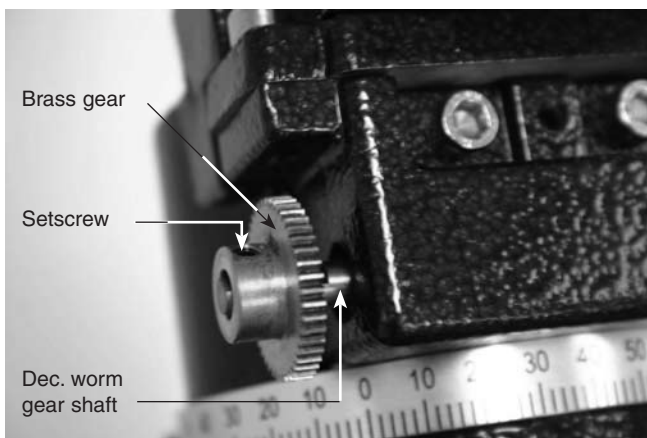

Figure 8. Correct orientation of brass gear for Dec. axis
2. Slide the geared end of the remaining small brass gear onto the Dec. worm gear shaft of your SkyView Pro mount so it resembles Figure 8. Rotate the small brass gear so that one of the setscrews will press against the flat part of the Dec. worm gear shaft. Secure the small brass gear by tightening the setscrews with the included 2mm hex key, but do not overtighten. You may have to make small adjustments to the gear's position in the following step to ensure proper gear engagement.